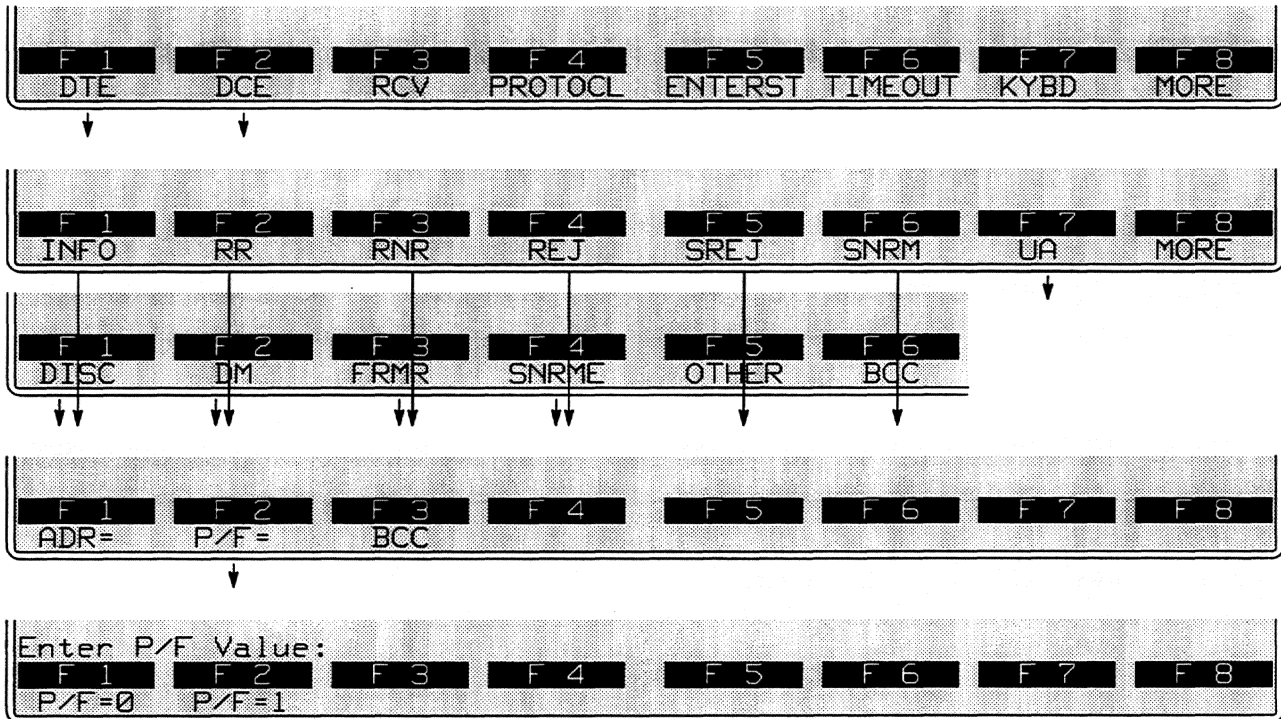

Figure 37-12 The value of the P/F bit may be chosen as a condition.
6. *Poll/final bit.* P/F conditions are optional for all frame types. P/F values of 0 or 1 are entered by the softkey sequence in Figure 37-12.
Press **DONE** to bypass the P/F= condition and the other conditions on the same softkey level in Figure 37-12.